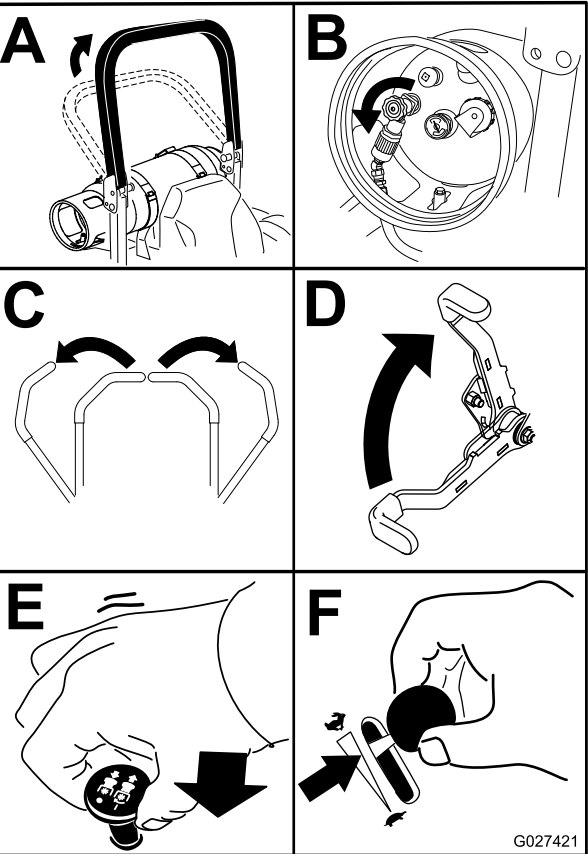

Figure 18
5. Move the blade-control switch (PTO) to the off position (Figure 18).
6. Move the throttle lever to the 3/4 throttle position between the slow and fast positions (Figure 18).